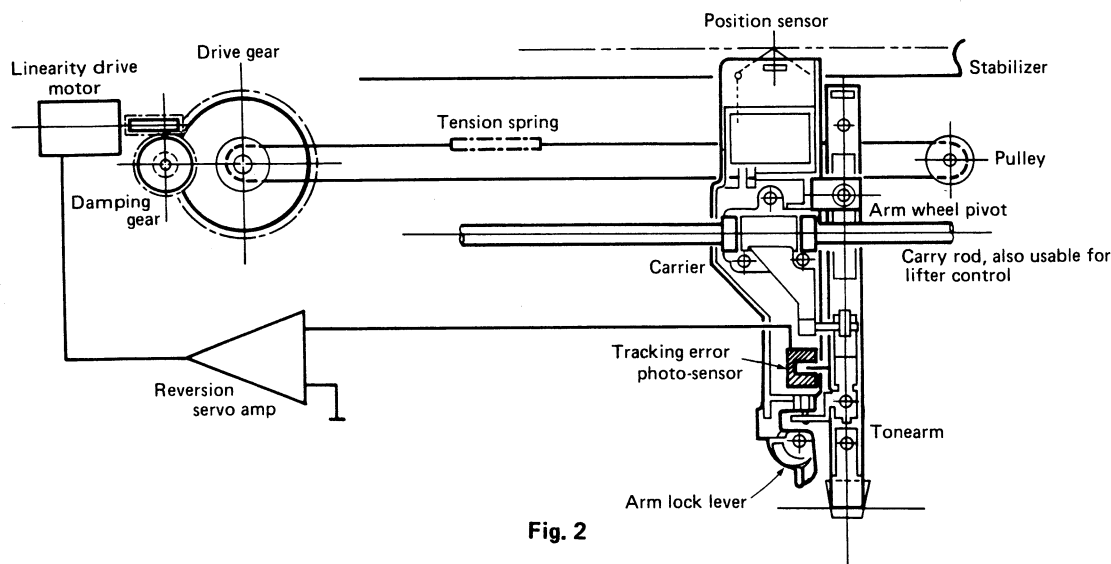

Fig. 2
- 3) Release the arm lock lever. (Pull it to your side, referring to Fig. 2.)